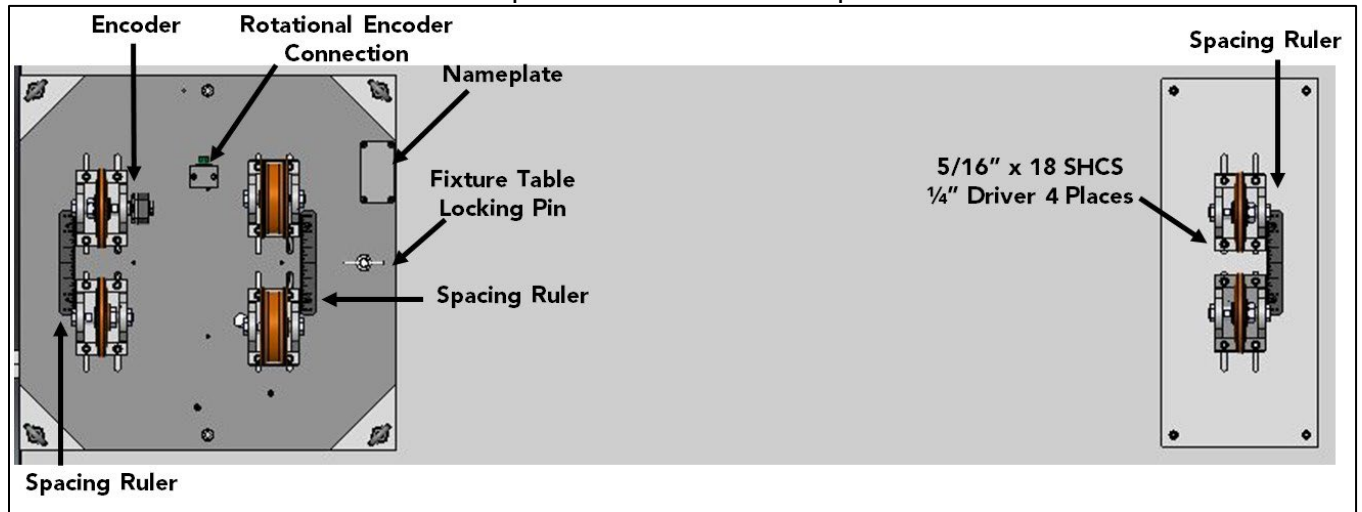

Figure 2 Rotational Fixture
- a. Use "Setup Rulers" on the fixture to equally space rollers on the fixture. See Figure 2 Rotational Fixture